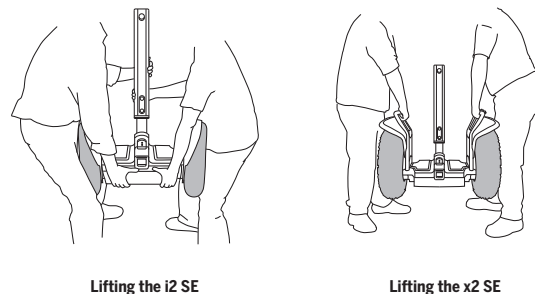

Figure 61: Lifting the Segway PT
3. Lift the PT with your legs, not your back (see **Figure 61**).